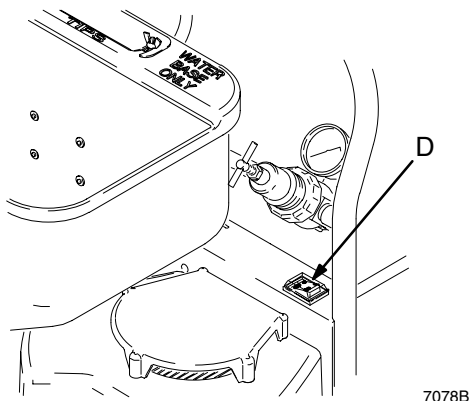

Fig. 3
2. Turn the ON/OFF switch (D) ON. Run the system for 15 minutes. Turn the switch OFF. See Fig. 3.
To reduce the risk of serious bodily injury due to the system restarting unexpectedly, always turn the ON/OFF switch (D) OFF if the motor shuts down. See Fig. 3 on page 5.